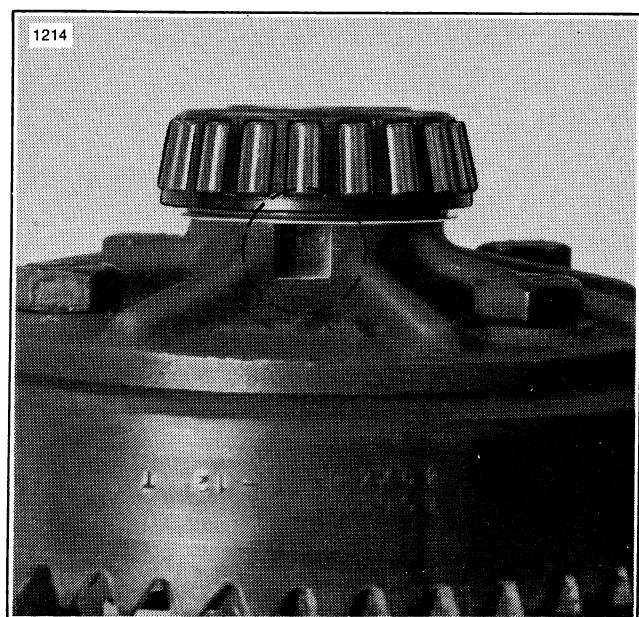

Figure 3-14. Recess for Puller
10. Remove differential bearing cones (8) if they are worn or damaged. (Do not remove differential bearings unless bearing failure is evident.) Care must be taken to ensure that bearing puller jaws are located in cast recesses of differential case so the puller jaws will apply their force to the inner bearing race and not the bearing cage (Figure 3-14).
11. Remove shims (11). Band or wire shims together to avoid losing them.